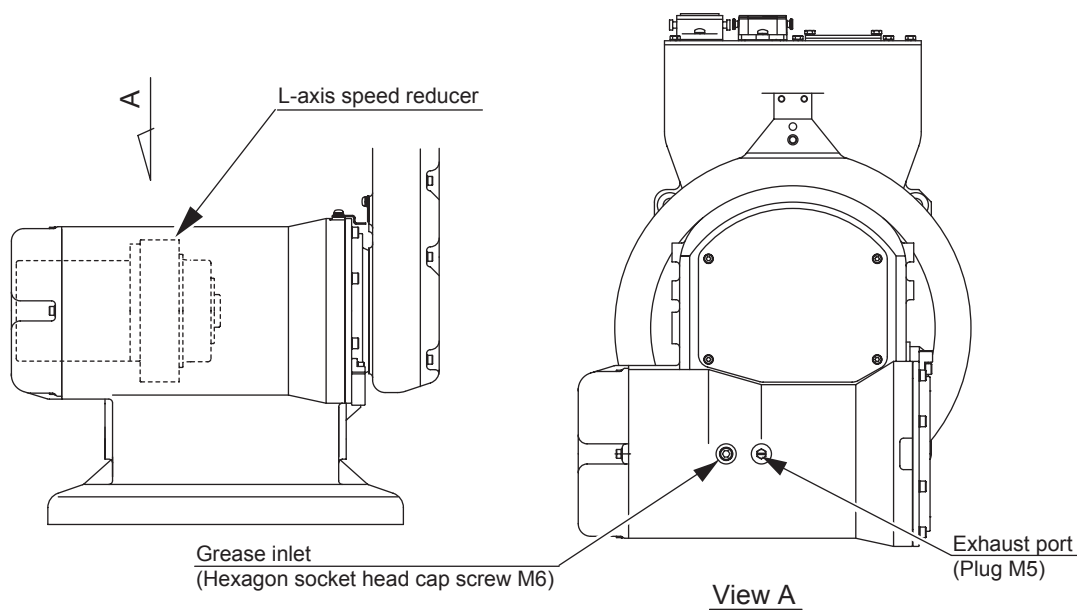

Fig. 24 L-Axis Speed Reducer Diagram
■ Grease Replenishment (Refer to " Fig. 24 L-Axis Speed Reducer Diagram ".)